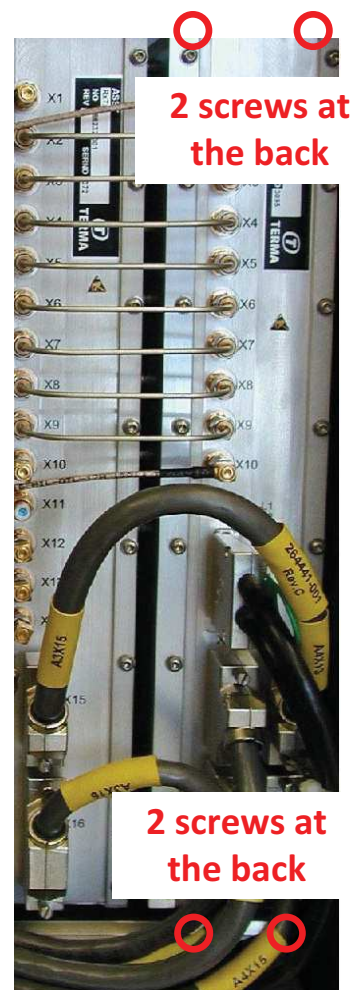

Fig. 7.27 Screws
- 5 Loosen the 4 captive screws holding the RxTx Control to the back of the cabinet (tool 9). 2 screws are located at the top and 2 screws are located at the bottom as indicated in Fig. 7.27 (p. 133).